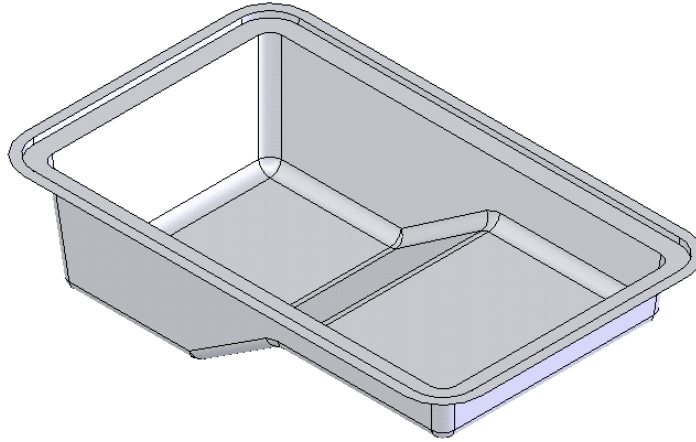

Figure 17-39 Resultant knitted surface after hiding the Plastic Cover
6. Select the **Plastic cover** from the **FeatureManager Design Tree** and invoke the shortcut menu. Choose the **Hide components** option from the shortcut menu. The resultant surface body extracted is displayed in Figure 17-39.